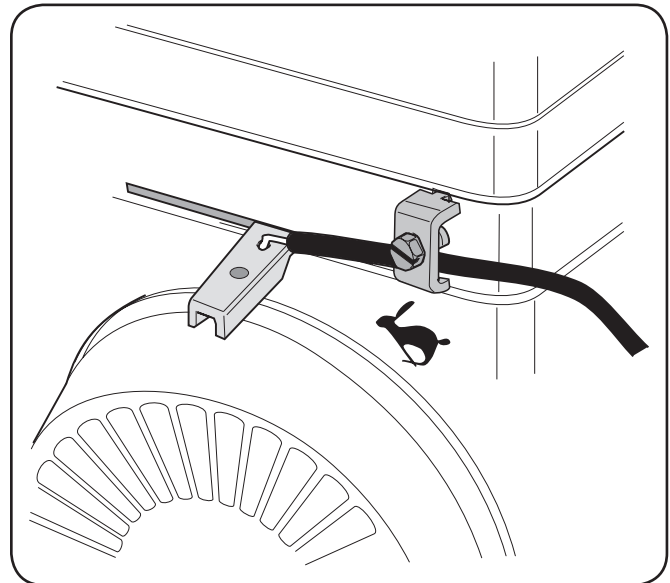

Figure 3-4
1. Remove the casing clamp and screw from the front left of the engine and hook the throttle cable into the throttle as shown in Figure 3-4.